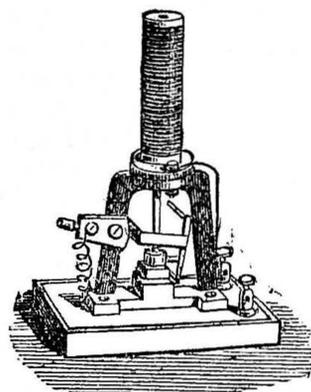

Fig. 1.—Bowron's Electric Hammer.
little hammer may be regarded as a model of a Nasmyth steam hammer, and is therefore made up of the following parts:—(1) The legs or frame. (2) The cylinder. (3) The piston of the hammer. (4) The hammer head. (5) The block or anvil, and its base. (6) The regulating gear, or, in this case, the make and break arrangement. I shall first describe Mr. Bowron's toy as illustrated at Fig. 1, and then suggest, under each head, how the various parts may be modified to suit the requirements, skill, and pockets of amateur makers. In this way I hope to meet the wants and wishes of all my readers.
In order to understand the principle upon which the astronomical telescope gives an enlarged view of an object viewed through it, we must, first of all, examine the optical properties of those round pieces of glass which are known as lenses. Four of the most generally used kinds of these are represented in section by Fig. 1, where A is a double-convex, B a double-concave, C a plano-convex, and D a plano-concave lens. A straight